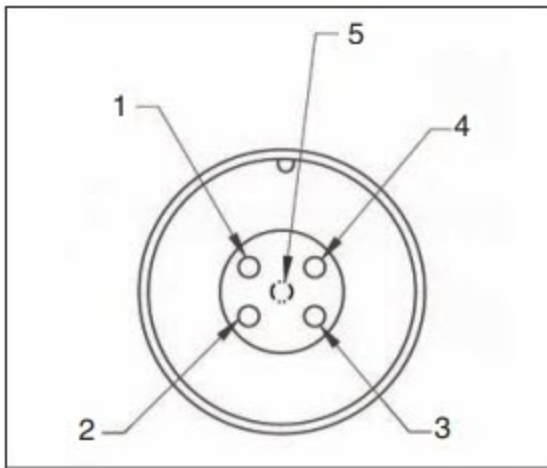

Figure 1 Diagram 1
1. Refer to Figure 1 for proper pin locations.